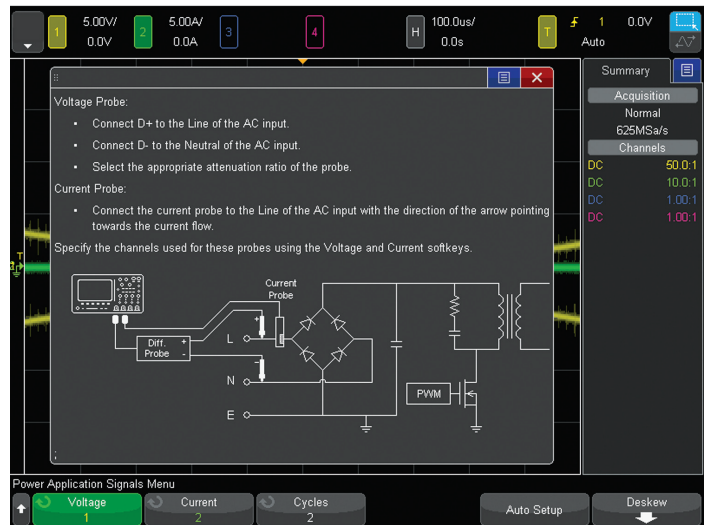

Figure 8: Connections diagram for the Power Quality measurement
7. Connect the N2790A high-voltage differential active probe from the scope's channel-1 input to Line (red lead) and Neutral (back lead) as illustrated in the connections diagram shown in Figure 8. If using Keysight's SMPS training kit, connect the probe to TP2 (red lead) and TP1 (black lead).